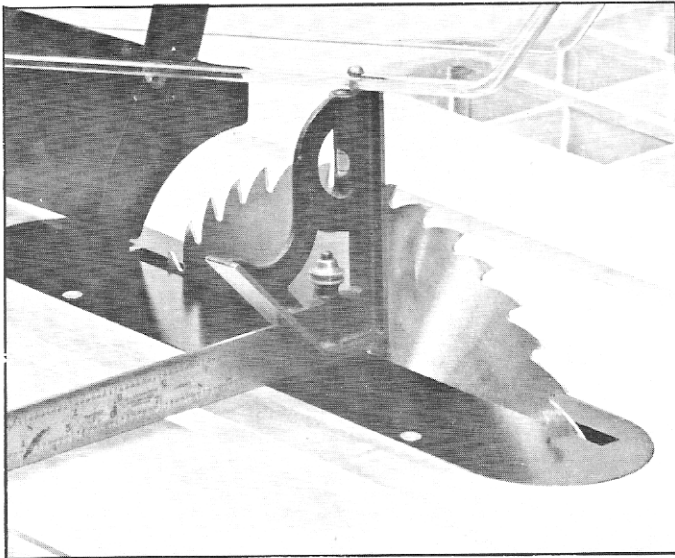

Fig. 29
3. Place a square on the table as shown in Fig. 29, and check to see if the blade is at a perfect 90 degree angle to the table.